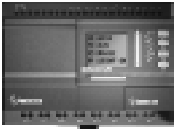

Fig. 4.6 (a) Basic Module Fig. 4.6 (b) Special Module Fig. 4.6 (c) Input/output Module
All modules needed in writing function graph are stored in module storeroom, such as basic function module, special function module and input/output module. When mouse is moved on the function module, function cue of the function module will appear automatically, and the right side of the module will appear the statement of the function module. Click button “Log” under the module storeroom with mouse, to display basic function module; Click “Fun” to display special function module; Click “I/O” to display input/output function module. As shown in Fig. 4.6(a), 4.6 (b), and 4.6(c):
2. Property dialogue box, as shown in Fig. 4.6, to setup each item of content according to what you need, you also could click “Action view” to observe the action process of this module.